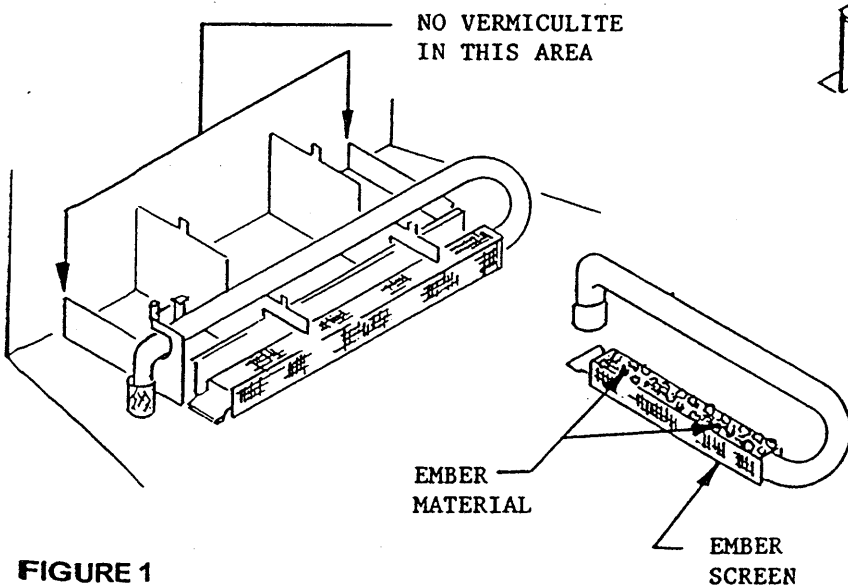

FIGURE 1
The control system for these models is a millivolt type. It consists of a gas control valve/regulator, a standing pilot assembly, a thermopile, a piezo ignitor, an ON/OFF rocker switch, and a safety high temperature limit switch. The controls are located in the lower compartment behind the trim door of the fireplace. Access to this compartment is gained by rotating up the bottom panel of the trim door. See Figure 1. **NOTE:** Grasp the OUTSIDE ends of the door panel when opening it.
Open the bag of vermiculite (Model 8000GDV ONLY) and spread it evenly on the bottom of the firebox making sure not to block the air hole at the base of the burner or the air holes in the center of the base pan (See Figure 1).
**CAUTION:** No vermiculite can be present in the area surrounded by the vermiculite dam at the base of the burner or in the area of the air holes in the center of the base pan beneath the burner (See Figure 1).
**INITIAL SET-UP:** Alternately place a single layer of dime size and shape pieces of Golden Ember (GE-93) and Glowing Ember (050-721) onto the top of the lower burner ember screen. See Figure 1.